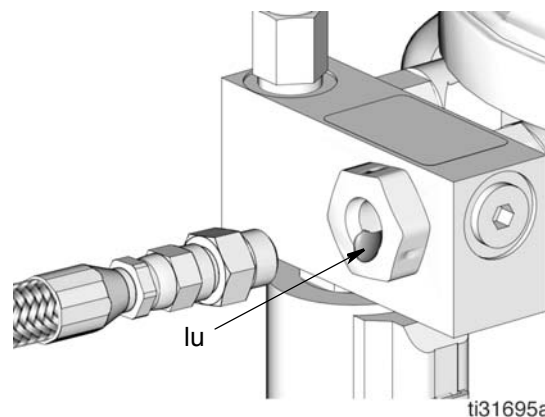

FIG. 25
2. Only run pump until air is no longer dispensed with the lubricant (lu) coming out of outlet fitting (FIG. 25).